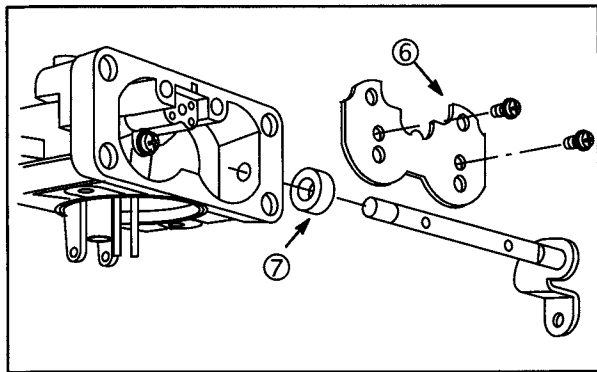

Fig. 126
4. Assemble new seal (7) to choke shaft and insert into carburetor body, **Fig. 126**.
5. Install choke plate (6).